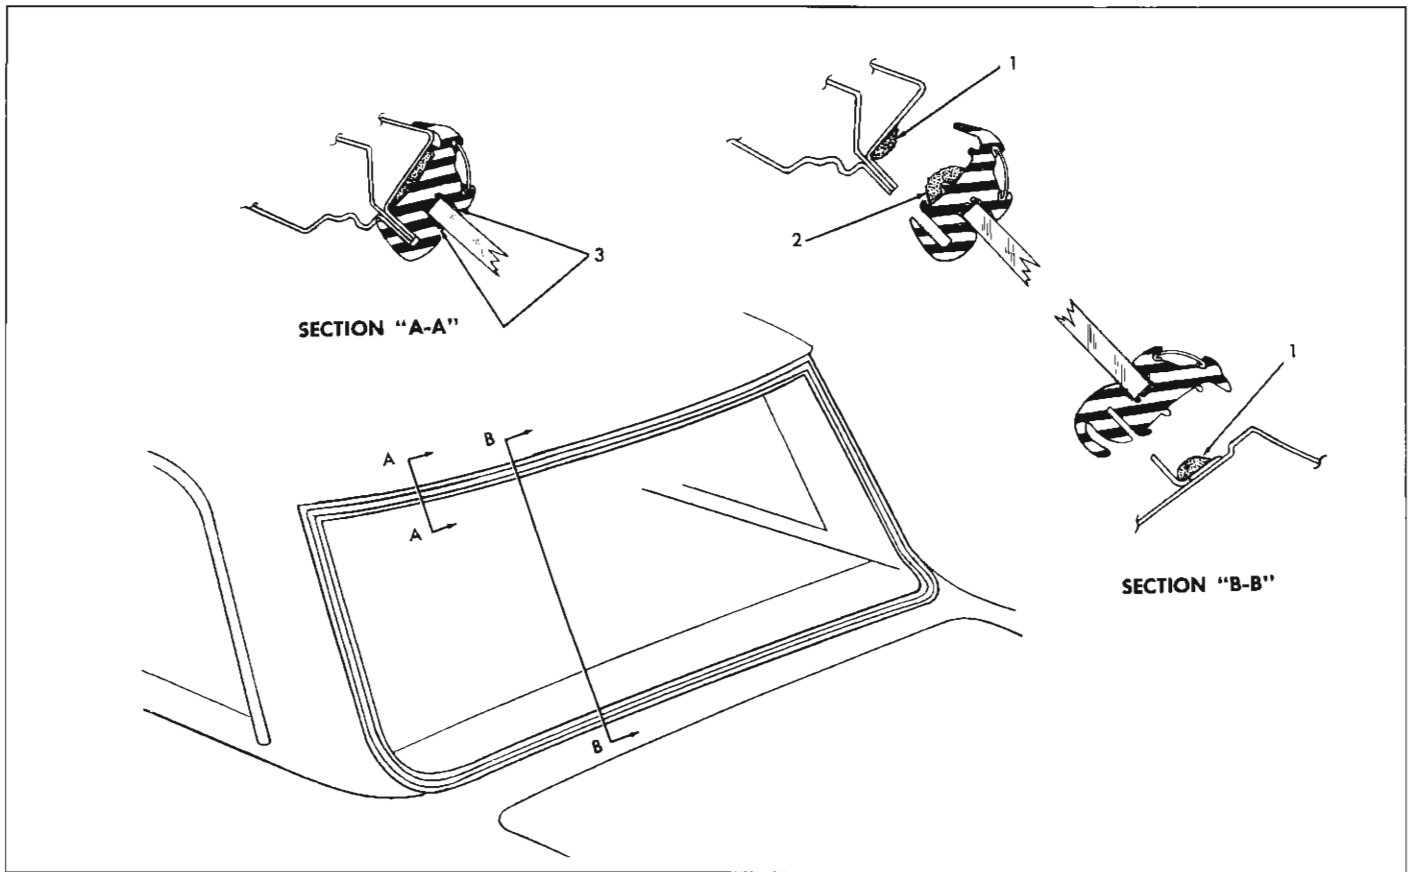

Fig. 34—Back Window Sealing—1211, 1269, 2311 and 2369
2. Apply a continuous ribbon of medium-bodied sealer (approximately 1/2 inch wide by 1/4 inch thick) on wall of rabbet completely around opening. (See "1" in Section "B-B", Figure 34).
4. Apply a continuous ribbon of medium-bodied sealer (approximately 1/2 inch wide by 1/4 inch thick) to base of rubber channel across the top and down both sides. (See "2" in Section "B-B", Figure 34).
7. Using a pressure type applicator (Pistol type oiler) apply weatherstrip adhesive (black) between rubber channel and glass on inside and outside of glass around entire perimeter of glass. (See "3" in Section "A-A", Figure 34). Application should be continuous with no skips.